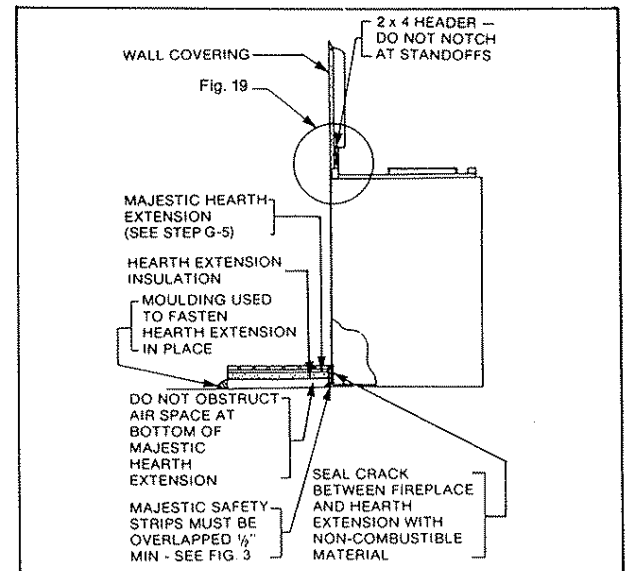

Fig. 22. Sealing detail.
Secure the hearth extension to the floor to prevent shifting, using trim moulding or other similar means at the three outer edges. **Seal the crack between the fireplace hearth and the hearth extension with a non-combustible material.** See Figs. 22 and 23.
**HEARTH EXTENSION MUST BE INSTALLED IN ACCORDANCE WITH FIGURES 22 OR 23 OR MAJESTIC SPECIFICATION 74-10-102A.**